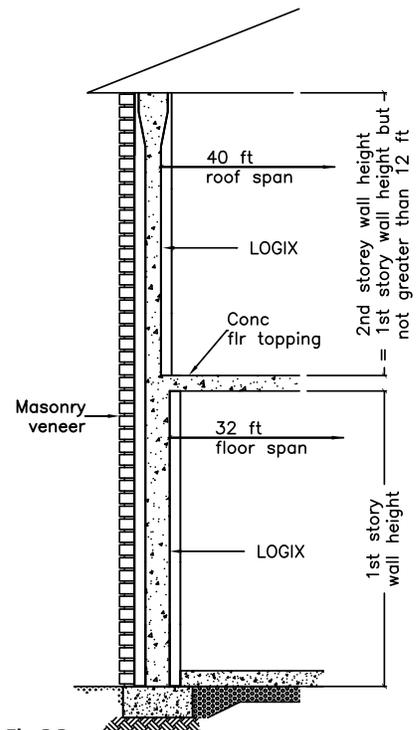

Fig 3C
- Two storey Logix supporting wood roof frame (Fig. 3C)